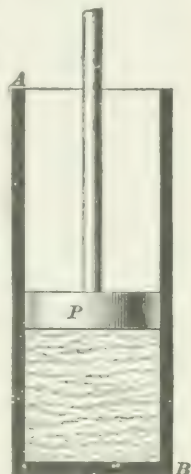

FIG. 1.
4. Effects of Heat.—Suppose we take a vessel filled with some substance, say water. Let the vessel be a cylinder fitted with a piston, as shown in Fig. 1. The water is, say, at the freezing point, and the millions of molecules composing the water are moving to and fro with a comparatively small velocity. Place the vessel over a fire or furnace. Heat is communicated to the molecules of water, and they begin to move faster and faster. That is, their kinetic energy increases, and if a thermometer is inserted in the vessel, it will be found that the temperature of the water rises. Consequently, one effect of heat is to raise the
6. Suppose that the piston in Fig. 1 is removed from the cylinder, so that the water will be in contact with the atmosphere, and that a thermometer is inserted. As the water becomes more and more heated, the temperature indicated by the thermometer will rise until it reaches 212° . So far, most of the heat has been used to raise the temperature of the water. But now, no matter how much heat is added to the water, the mercury stands at 212° , and cannot be made to rise higher. This is the reason: When the temperature reaches 212° the molecules of water have been set into such rapid motion that the force of cohesion is no longer able to hold them and they tend to separate. In other words, the water changes to a gas (steam), and all the heat is being used to effect this change. The temperature of the steam will remain at 212° until all water is changed to steam; then, if more heat is applied, the temperature of the steam will begin to rise.
8. **Summary.**—By a study of the results of applying heat to the substances that have just been considered, we see that the effects of heat most commonly observed are: (1) It increases the rate of motion of the molecules, an effect that is indicated by an increase in temperature. (2) It increases the lengths of the paths of, and the distance between, the molecules, thus causing the body to expand and fill a greater space. (3) It overcomes the attractive forces that tend to hold the molecules of a substance together, and thus changes it from a solid to a liquid or from a
12. Relation Between Heat and Work.—Suppose that, in the experiment shown in Fig. 1, the piston had been allowed to remain in the cylinder while the water was being changed to steam. Steam at 212° occupies nearly 1,700 times the space that the water originally occupied. Hence, the piston would be lifted in the cylinder to give room for the steam that was being formed. But to raise the piston requires work. Here, then, is an example of work being performed by heat. On the other hand, work will produce heat. If two blocks of wood are rubbed briskly together, they will become warm, and may even ignite. The work done in overcoming friction causes the journals and bearings of fast-running machines to heat. A small iron rod may be heated to redness by pounding it on an anvil.